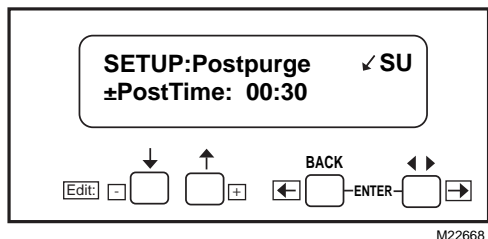

Fig. 8. Setting Post Purge time.
8. “Getting Data” will be momentarily displayed, followed by the screen shown in Fig. 8.